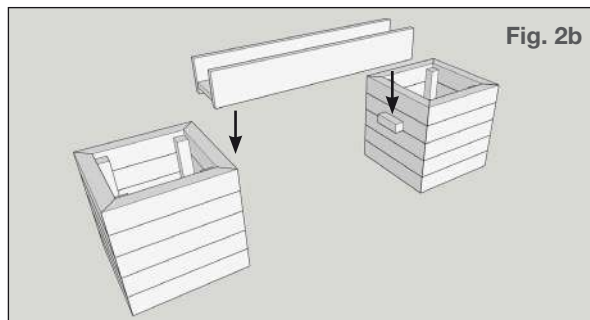
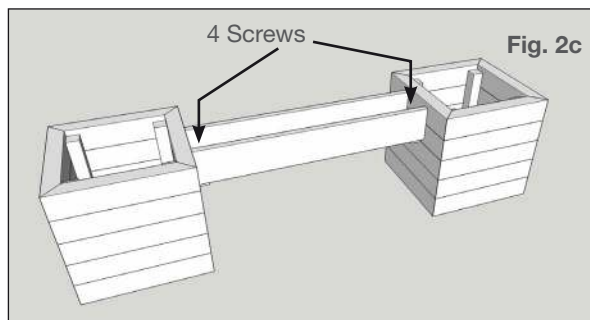

Fig. 2b
Fig. 2c
2. Lower the trough into position (Fig. 2b) and insert the four screws provided into the pilot holes at each end and screw together. (Fig. 2c)